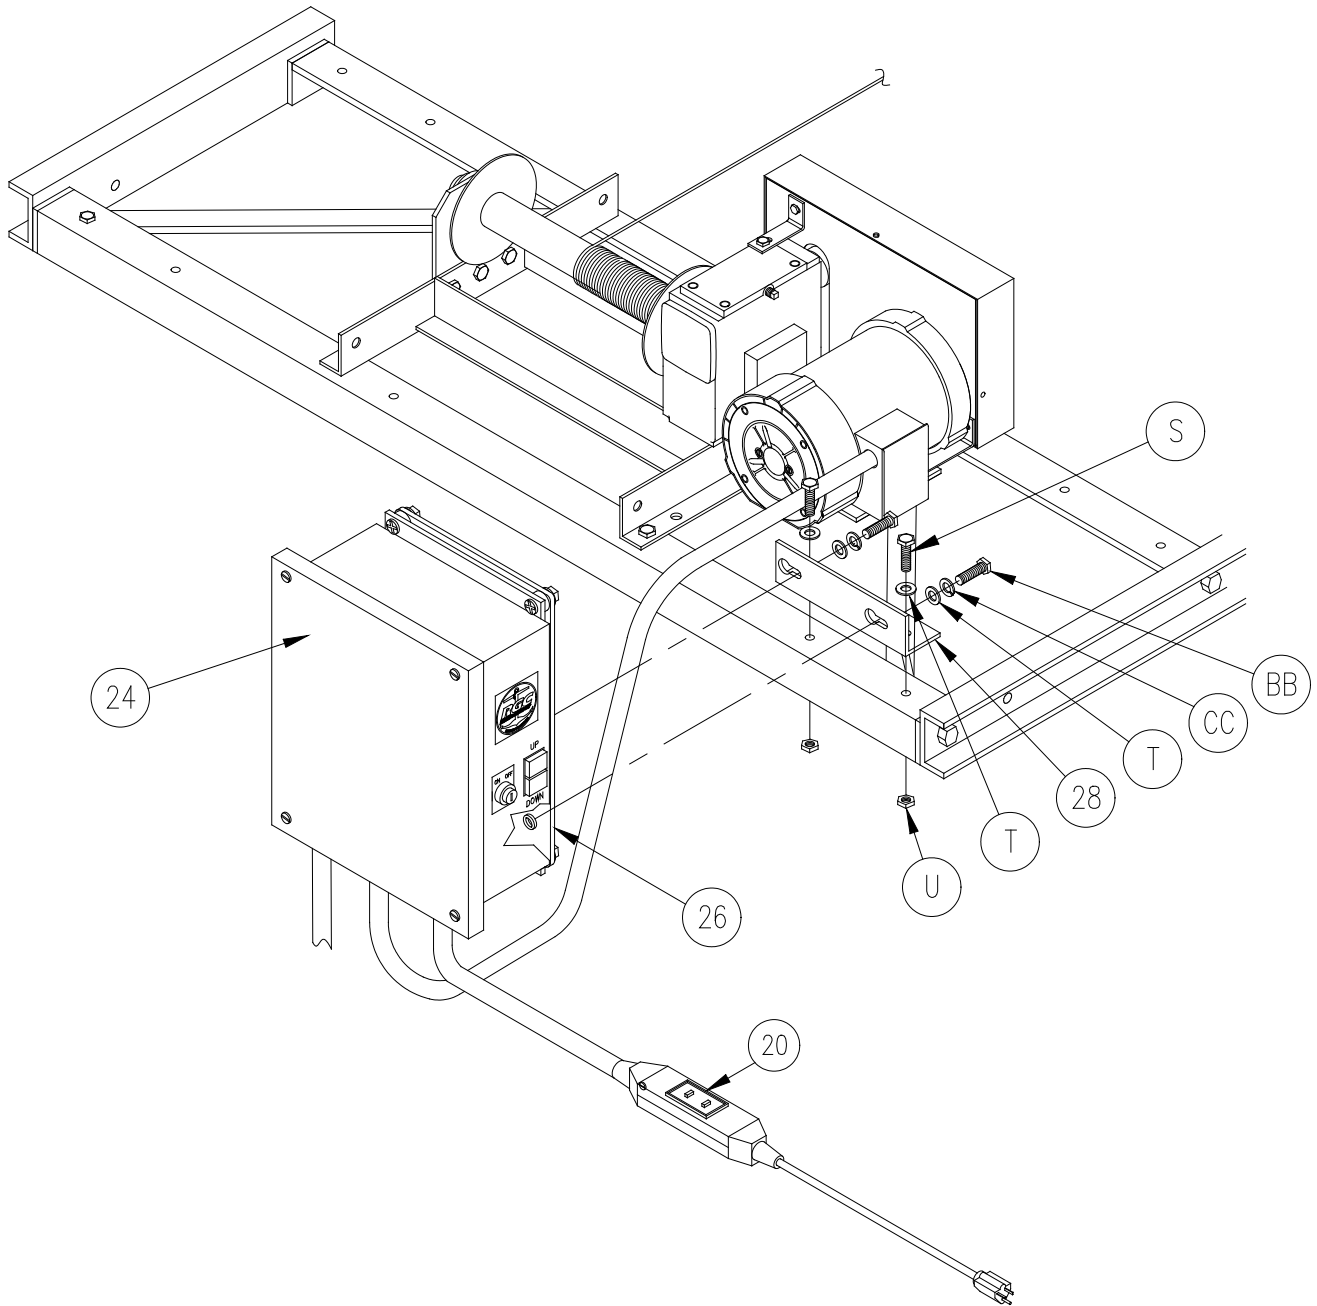

Figure 3-2.
1. **Refer to Figure 3-2.** Attach universal mounting bracket (28) to railway motor cross tie. Attach RC panel assembly (24) to mounting bracket using supplied hardware and lower set of threaded holes in RC mounting plate (26).